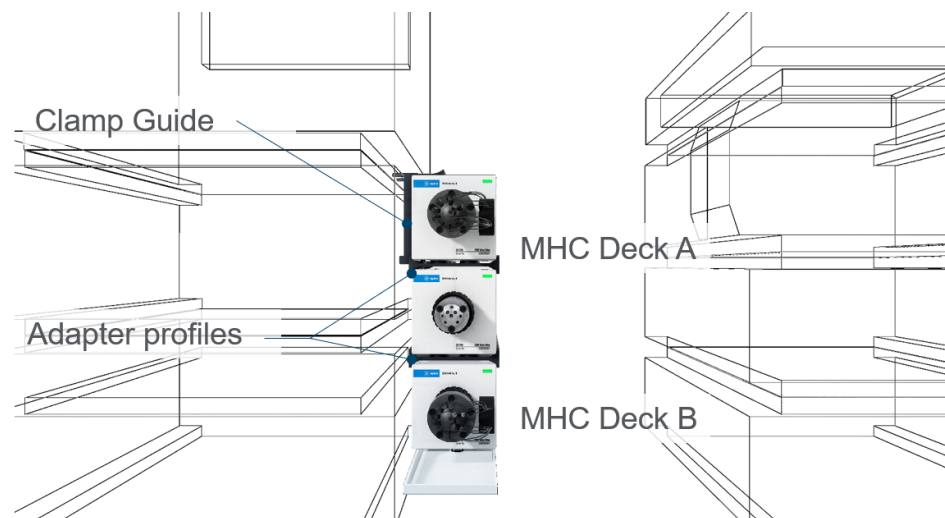

Figure 42 Schematic of the installation and attachments of the Bio 2D-LC valve and optionally the MHC decks
- 4 Attach the adapter-profile on each of the other external valve drives and mount them according to the positions shown in Figure 42 on page 95.